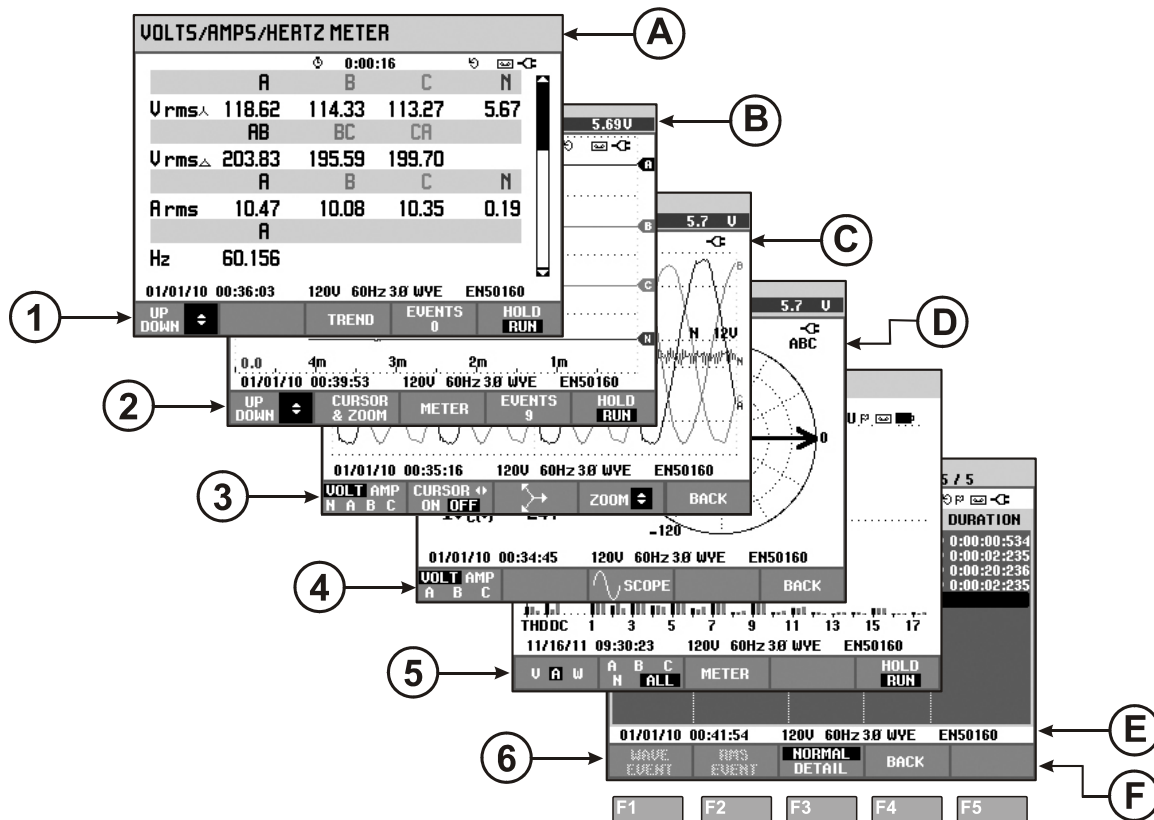

Figure 5-1. Survey of Display Types
Below you will find a brief description of each screen type and its purpose. The measuring mode it is used for is given as well as the manual chapter (Ch.) with detailed information. Bear in mind that the amount of screen information depends on the number of phases and the wiring configuration. Refer to Figure 5-1, item 1 ... 6.
Refer to Figure 5-1, item A ... F